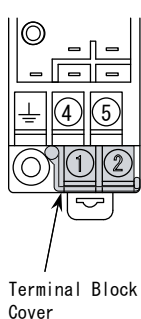
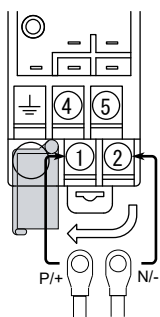

Fig. 1
Fig. 2
The terminals for power supply connection (① and ②) are covered with a plastic plate for safety (see Fig. 1). Open the cover plate and connect the power lines to the terminals (see Fig. 2). Return the cover plate to its original position (see Fig. 3).